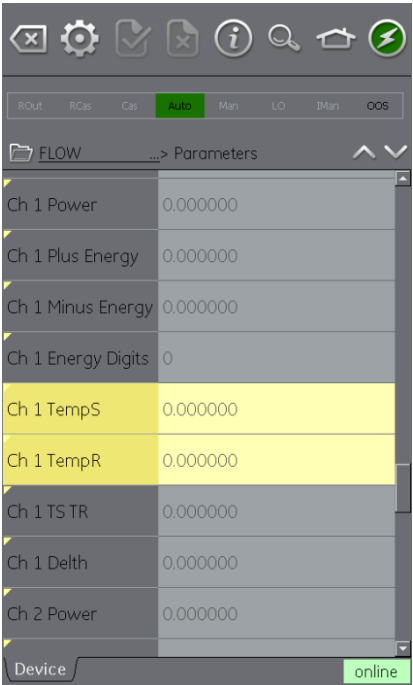

Figure 7-17 Function Finder
5. Function Finder will then display the Function Group concerned in the device view with all searched variables highlighted in yellow (refer to Figure 7-17)